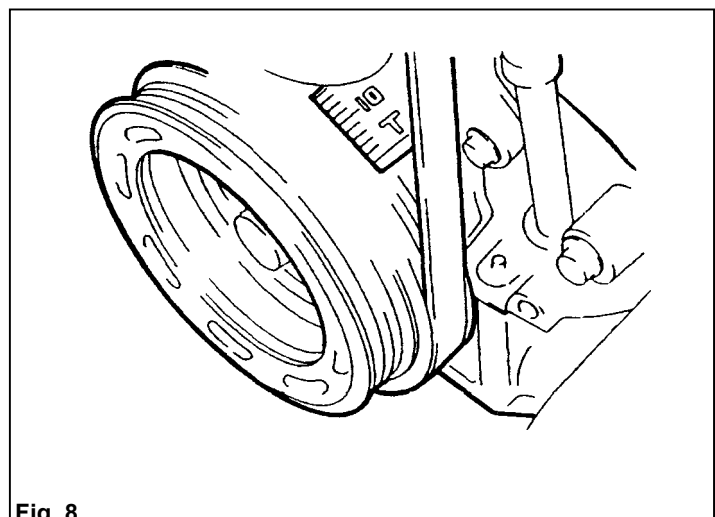
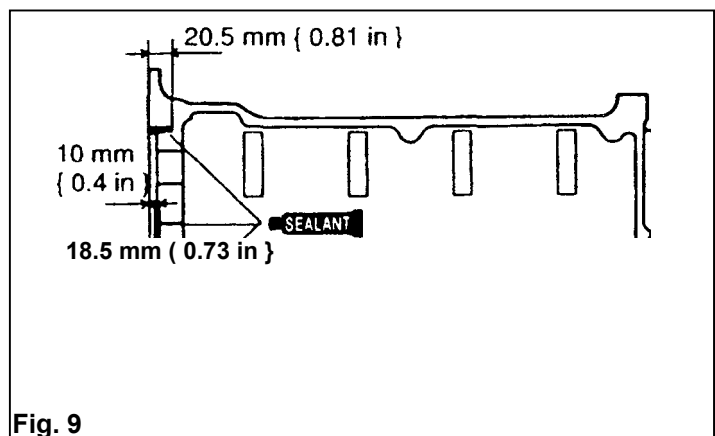

Fig. 8
Fig. 9
4. Turn the crankshaft and align the yellow mark on the crankshaft pulley with the "T" mark on the timing belt cover. Refer to Fig. 8
7. Install the two (2) bolts of the chain adjuster. Tighten bolts.
10. Apply sealant to the cylinder head. Refer to Fig. 9